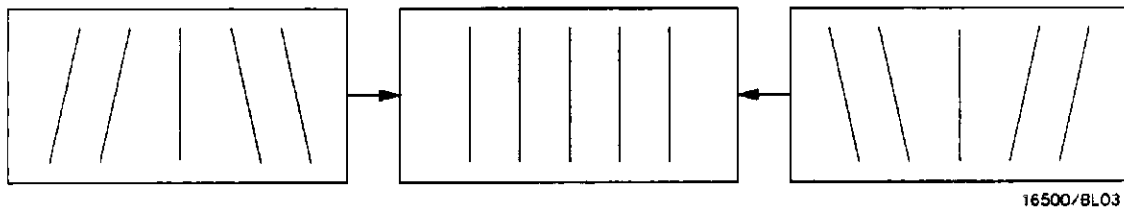

Figure 4-14. PIN PHASE Adjustment.
8. Adjust PIN PHASE (RV505) on left side PC board to eliminate pin phase distortion in vertical lines of cross-hatch pattern. See figure 4-14.